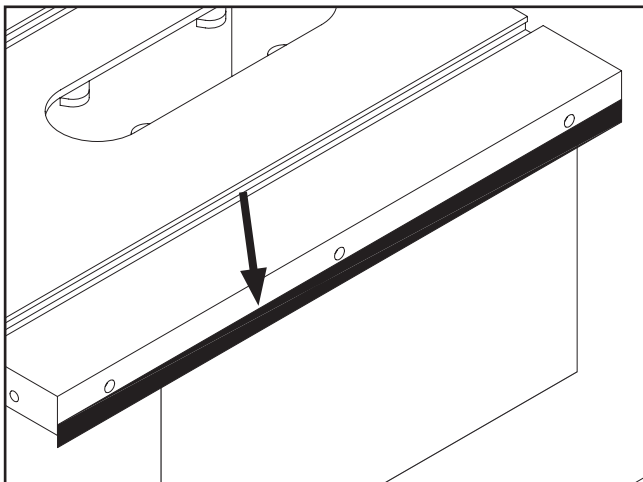

Figure 6. Masking tape location for adjusting extension table up.
- If either extension wing tilts down, loosen it and place a strip of masking tape along the bottom edge of the table (**Figure 6**).